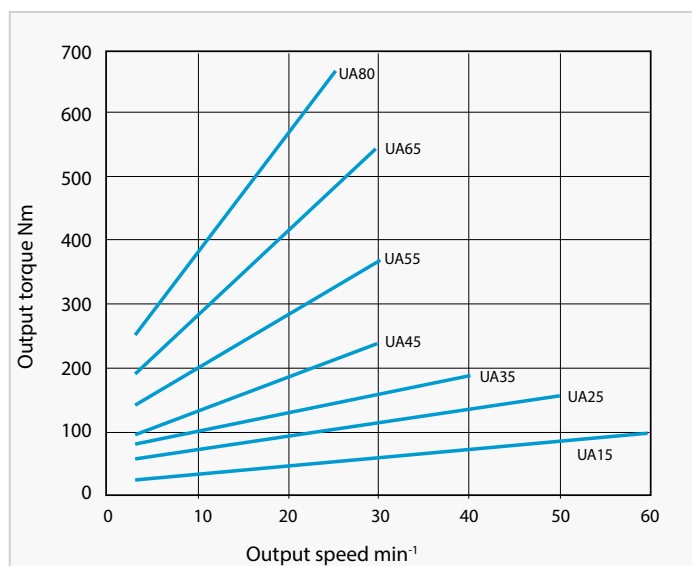

Fig. UA-1 Output side no-load running torque
**Note** 1. Fig. UA-1 shows the average no-load running torque after gearbox is run in (not factory-new condition).